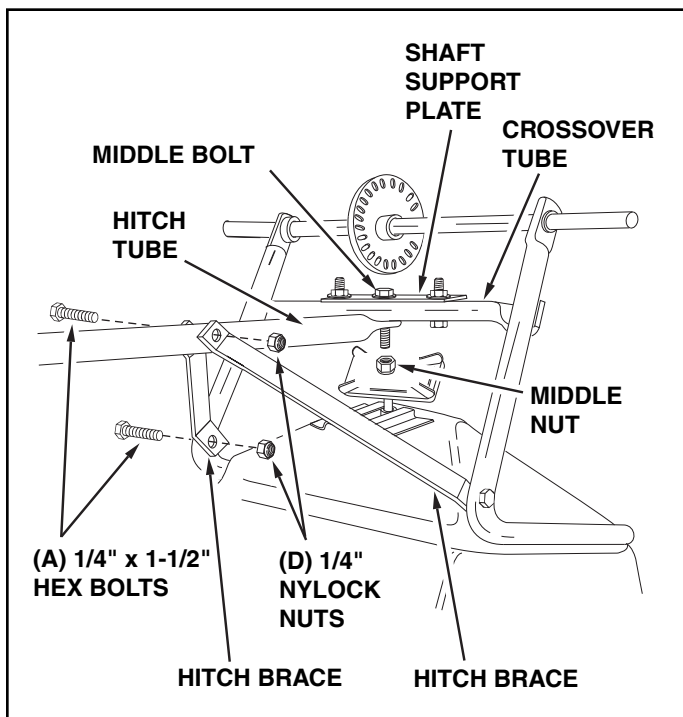

FIGURE 2
2. Assemble the two hitch braces to the inside of the hopper frame, one on each side, using two 1/4" x 1-1/2" hex bolts (A) and two 1/4" nylock nuts (D). **DO NOT TIGHTEN YET.** See figure 2.
3. Remove the nut from the middle bolt in the crossover tube and shaft support plate. Leave the bolt in place. See figure 2.
4. Assemble the hitch tube onto the middle bolt and secure it with the same nut you removed. **DO NOT TIGHTEN YET.** See figure 2.
5. Assemble the two hitch braces to the hitch tube using a 1/4" x 1-1/2" hex bolt (A) and a 1/4" nylock nut (D). **DO NOT TIGHTEN YET.** See figure 2.